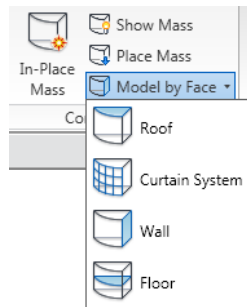

Figure 231: Model by Face drop-down button in Revit Architecture 2010.
A drop-down button expands to show two or more commands in a drop-down menu. Each sub-command can have its own large icon (see Figure 231 below.)
- The top label **SHOULD** sufficiently describe the contents of the drop-down list. For example, in Figure 231, Roof, Curtain System, Wall and Floor are all ways of modeling by face.)